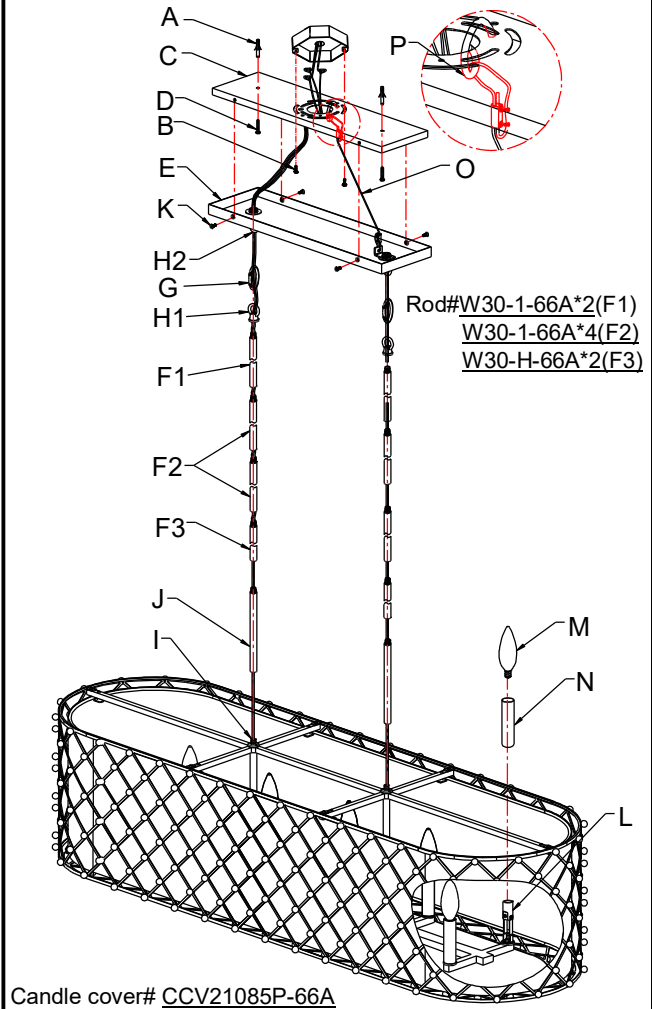

Fig. 2
CONNECTING THE WIRES (Fig. 2)
10. Connect the electrical wires as shown in figure 2, making sure that all wire connectors are secured. If your junction box has a ground wire (green or bare copper), connect the fixture's ground wire to it. Otherwise, connect the fixture's ground wire directly to the mounting plate (C) using the green screw provided.